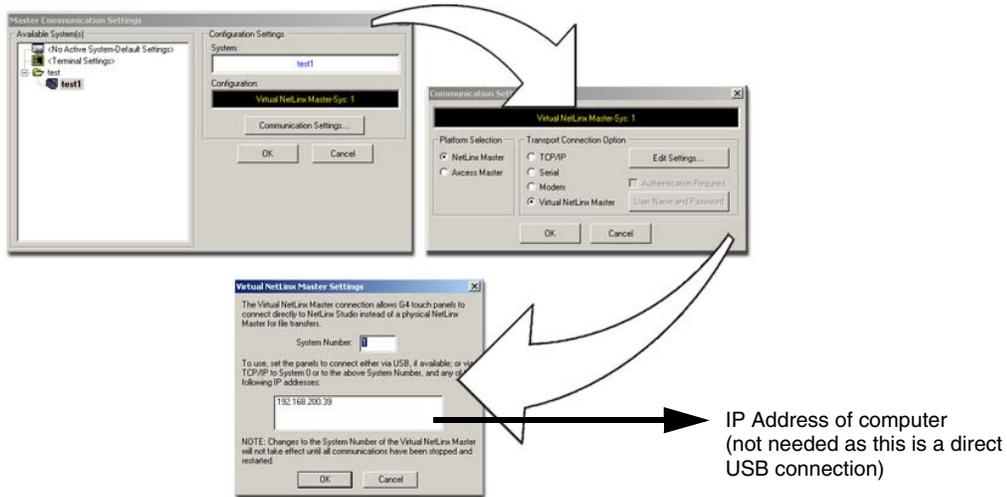

FIG. 70 Assigning Communication Settings for a Virtual Master
- Select **Settings > Master Communication Settings**, from the Main menu to open the Master Communication Settings dialog (FIG. 70).
6. Click the **Edit Settings** button (*on the Communications Settings dialog*) to open the *Virtual NetLinX Master Settings* dialog (FIG. 70).